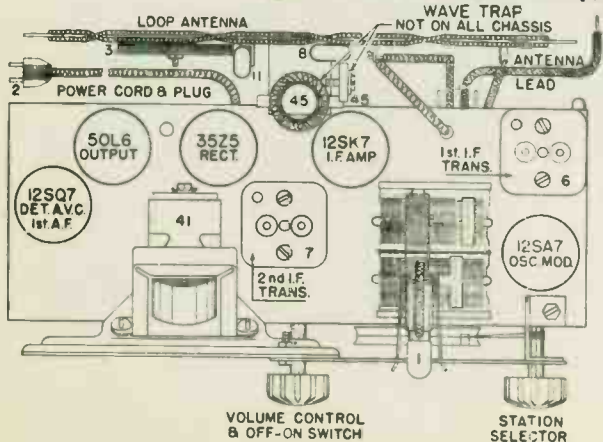

Fig. 2—Top View Model 11 Chassis
(d) Adjust the 2nd I-F trimmer condenser, Item 7, located in top of 2nd I-F assy., (Fig. 2) for maximum reading on the output meter.
(e) Adjust the 1st I-F trimmer condensers, item 6, located on top of 1st I-F assy., (Fig. 2) for maximum output.
Some chassis of this model are equipped with a wave trap for the purpose of eliminating interference from code stations which operate on a frequency of approximately 455 kilocycles. This assembly is located on the loop mounting bracket (Fig. 2) and consists of a coil, and a trimmer condenser as illustrated by the dotted lines in the Wiring Diagram (item 45).